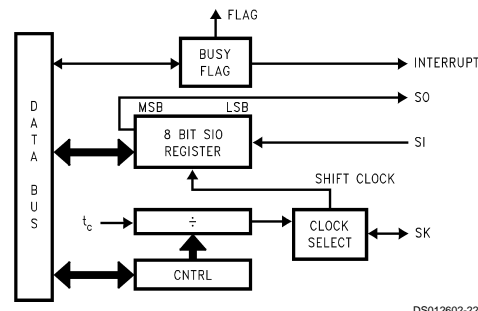

FIGURE 19. MICROWIRE/PLUS Block Diagram
MICROWIRE/PLUS is a serial synchronous communications interface. The MICROWIRE/PLUS capability enables the device to interface with any of National Semiconductor's MICROWIRE peripherals (i.e. A/D converters, display drivers, E²PROMs etc.) and with other microcontrollers which support the MICROWIRE interface. It consists of an 8-bit serial shift register (SIO) with serial data input (SI), serial data output (SO) and serial shift clock (SK). Figure 19 shows a block diagram of the MICROWIRE/PLUS logic.